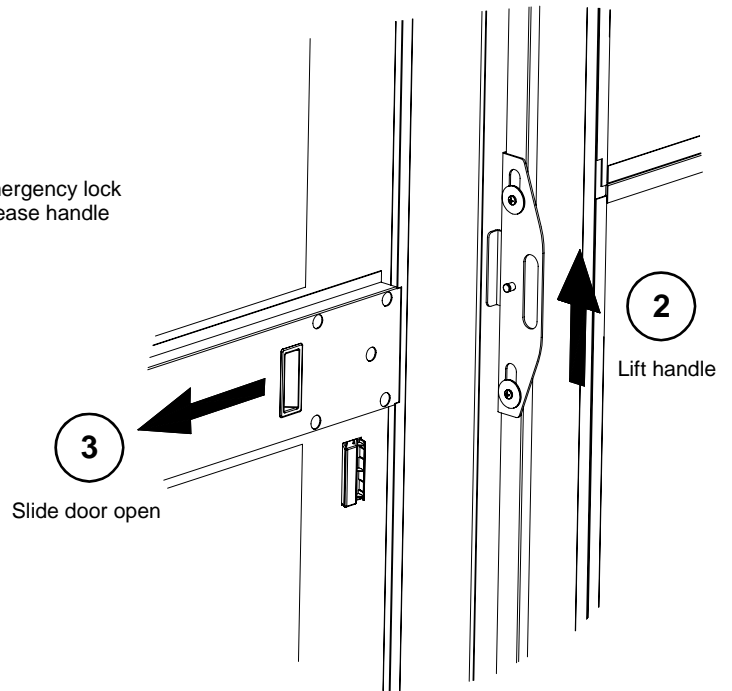

Figure 25
2. Lift the emergency lock release handle upwards. See figure 25.
3. While holding the emergency lock release handle in the “up” position, slide the cage door open. See figure 25.